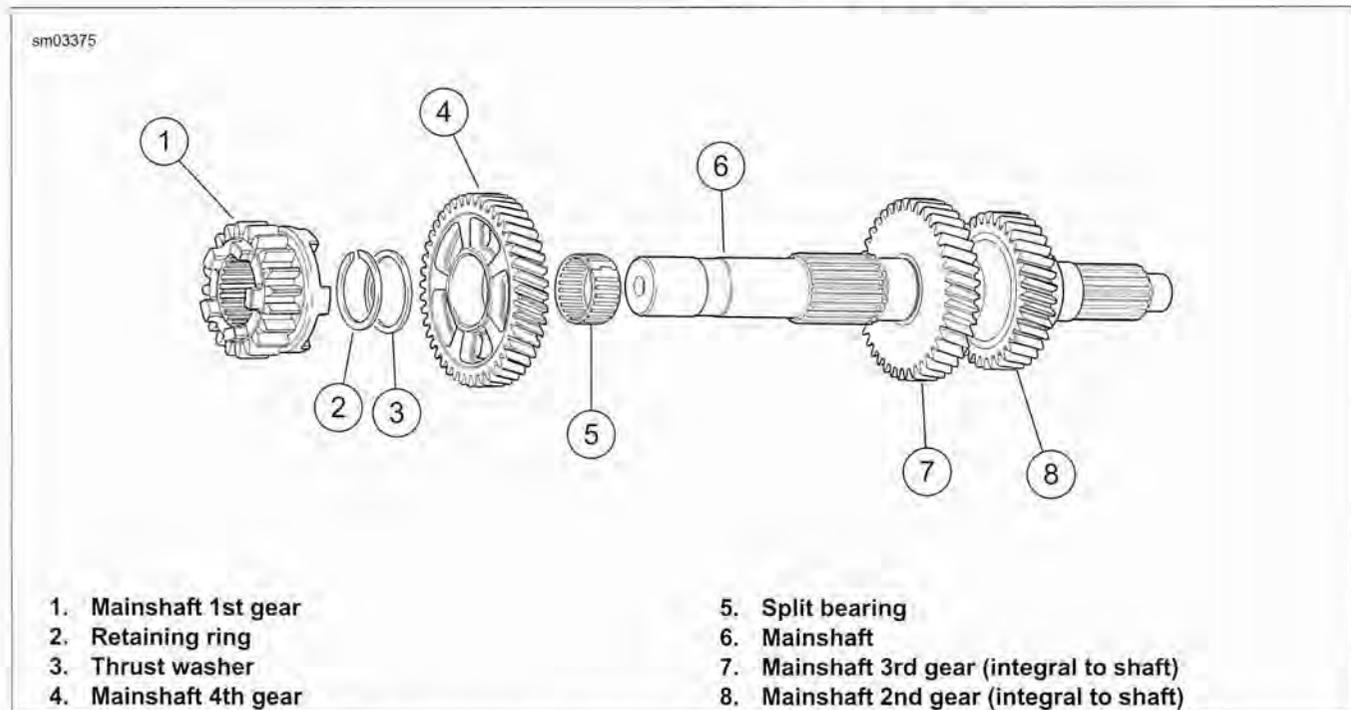

Figure 5-62. Transmission Mainshaft Assembly Once Removed from Left Crankcase/Disassembly
1. See Figure 5-62. Install **new** split bearing (5) in 4th gear position on mainshaft.
2. Install 4th gear (4) and thrust washer (3).
3. Using RETAINING RING PLIERS (Part No. J-5586-A), expand and install new retaining ring (2).
4. Install 1st gear (1).